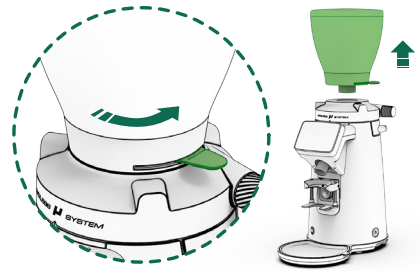

Fig. 2
11.3.2. For the **F10**, to properly disassemble the regulator, please follow the steps outlined in section **12.3.10.** to **12.3.12.**. Use the #3 Hex Allen key supplied to loosen the screw that holds the nozzle located on top of the grinding cavity, according to **(Fig. 1)**, and remove it by pulling downwards, as shown in **(Fig. 2)**.
12.3.2. Check that the shutter is in the closed position before removing the hopper from the grind regulator (8) (Fig. 2).